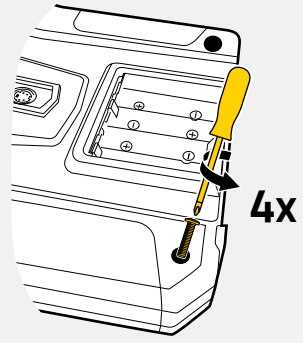

Fig. 12
2. Remove the 4 screws that hold the housing together (see [Fig. 12]).